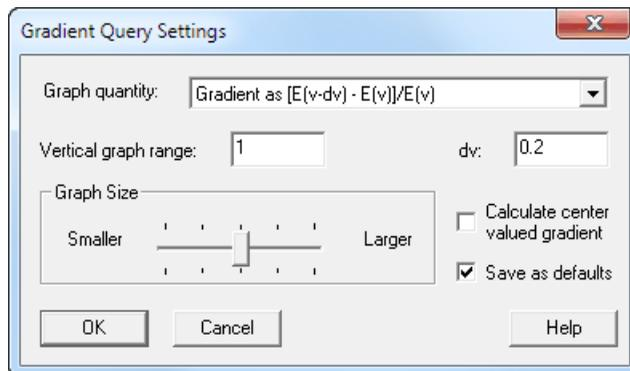

Figure B.2 Gradient Query Settings with vertical gradients in the 0.2 to 0.4 range
- 5 Right-click the Output view and click **Gradient Query Settings**. Complete the dialog box as shown in Figure B.2